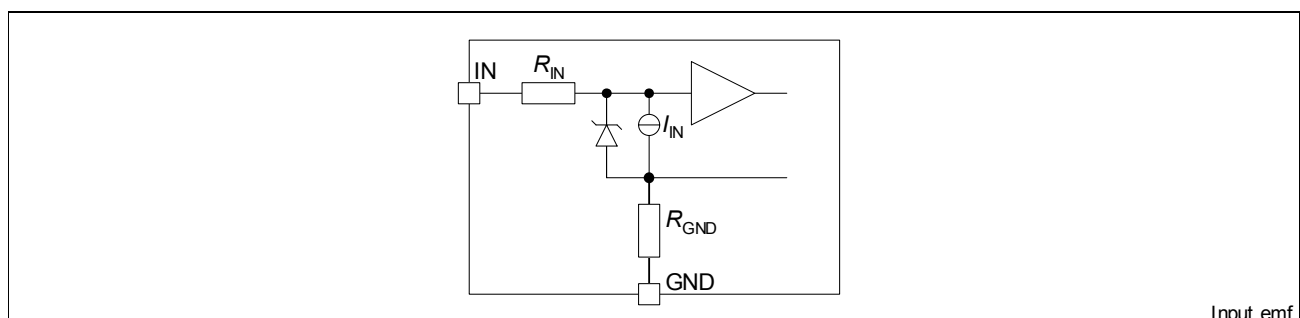

Figure 5 Input Circuit (IN1 and IN2)
**Figure 5** shows the input circuit of the BTS 5235-2L. There is an integrated input resistor that makes external components obsolete. The current sink to ground ensures that the device switches off in case of open input pin. The zener diode protects the input circuit against ESD pulses.